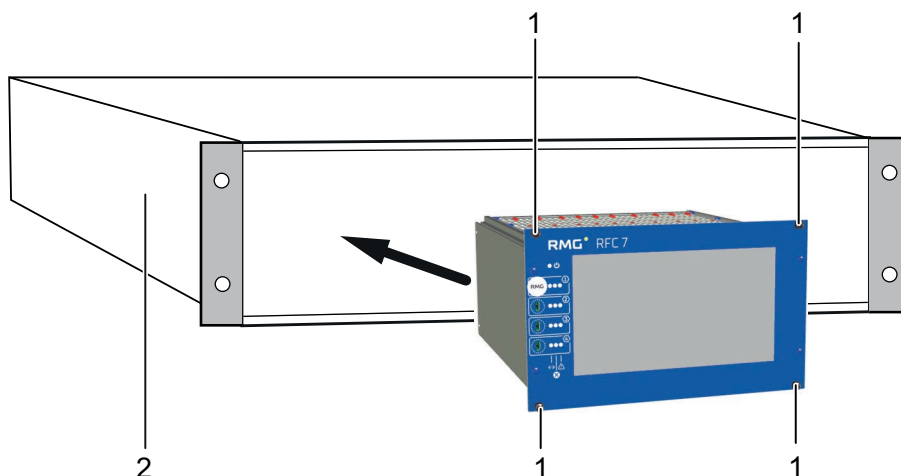

Fig. 17: Position of the screws on the front panel of the RFC 7
2. Place the RFC 7 in the required position and slightly tighten the four screws (fig. 17, no. 1) with a cross-head screwdriver.